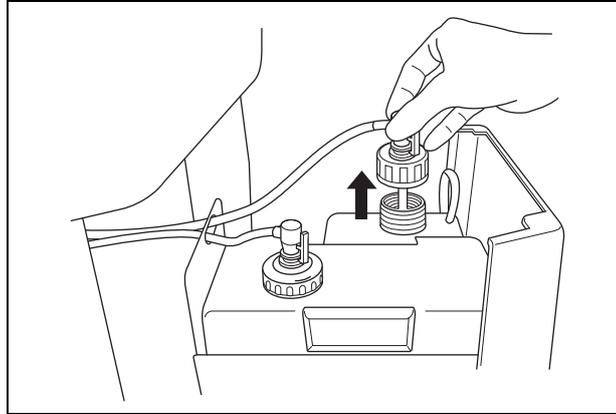

Figure 7.93
6. Detach the alcohol tank cap to which the tube is connected (Do not disconnect the connector.) (see Figure 7.93).